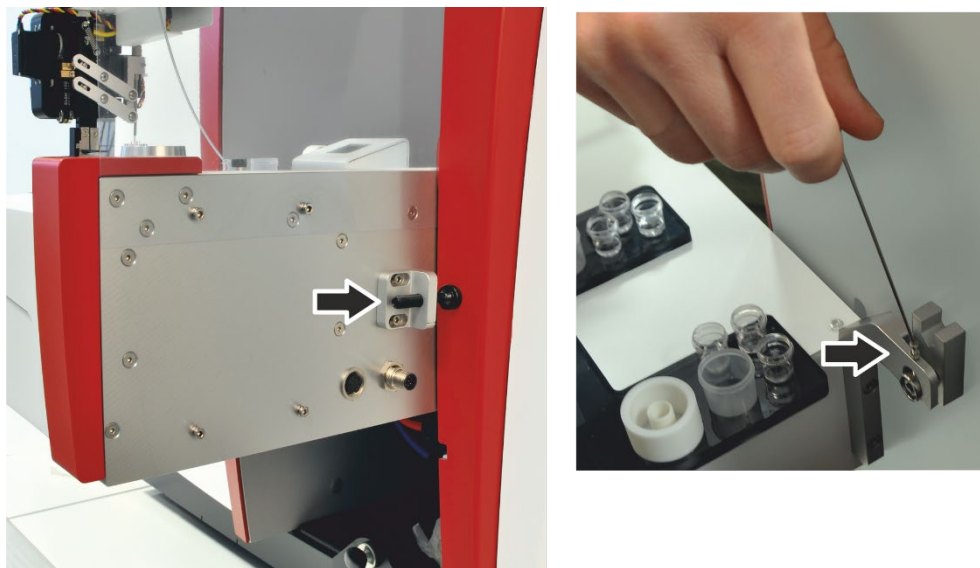

Figure 15 Mechanical adjustment using stop screw and adjustment screw
2. If this is not the case, align the autosampler horizontally using the following 2 screws (arrows in Figure 15):